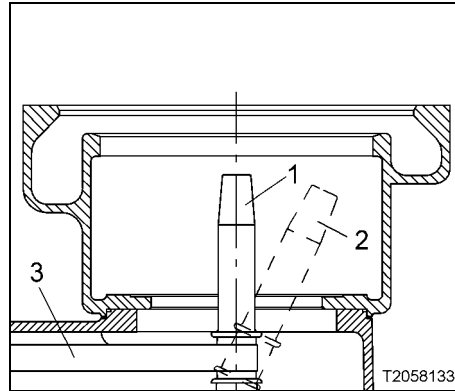

Fig. 312
Due to the design concept used, the spindle is at an inclined angle relative to the opposite side of the motor when the drive belt has not been fitted or tensioned (see Fig. 312, pos. 2).
The spindle is pulled into the centric axis when the belt is tensioned (see Fig. 312, pos. 1).